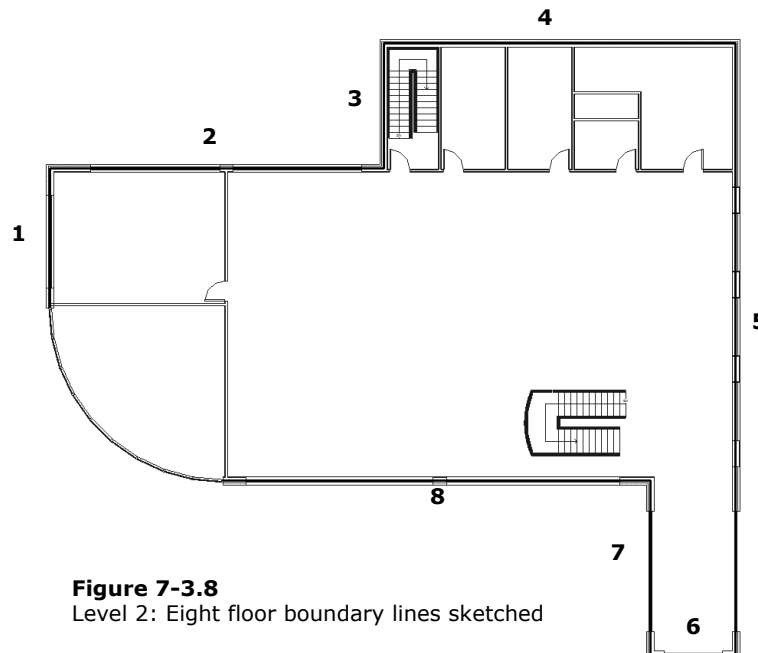

Figure 7-3.8
22. Using the *Pick Wall* icon, select the walls shown in Figure 7-3.8: